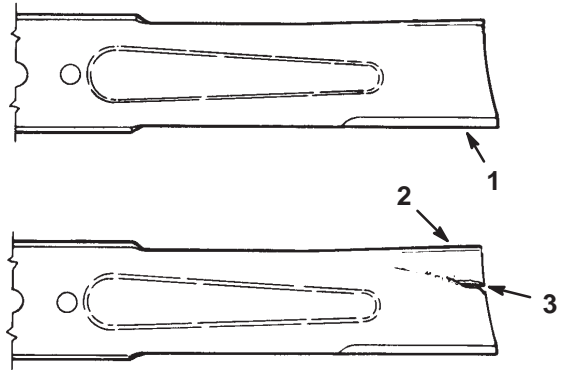

Figure 40
- Inspect the blades, especially the curved area (Fig. 40). If you notice any damage, wear, or a slot forming in this area (item 3 in Fig. 40), immediately install a new blade.
- Inspect the cutting edges (Fig 40). If the edges are not sharp or have nicks, remove and sharpen the blades. Refer to Sharpening the Blades on page 31.